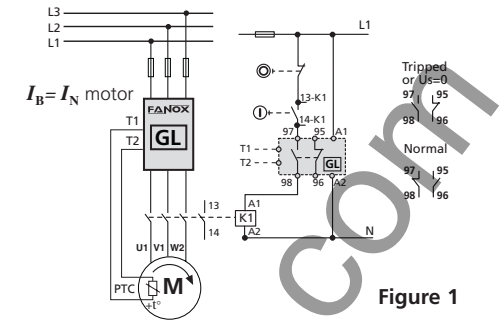

Figure 1
- For motor rated currents between 4 and 90A, the setting I_B must be equal to the rated current of the motor I_N (Figure 1).